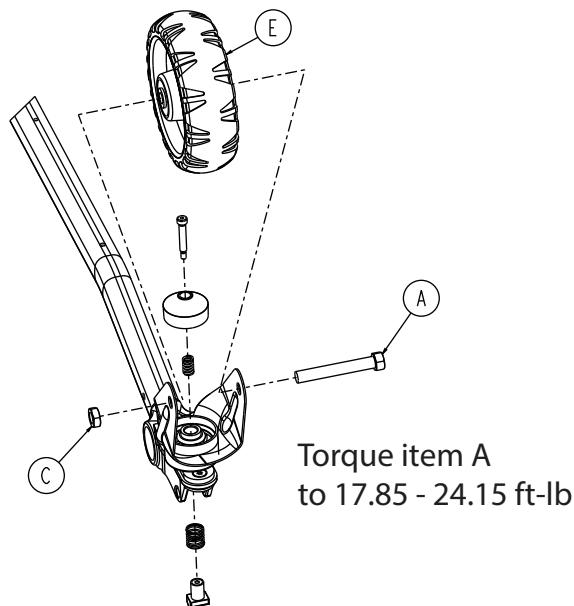

Figure 50 – Transport wheel components
4. Using a ratchet, 11/16" socket wrench, and 5/8" combination wrench, remove the hex head cap screw (A) and tolock hex thin nut (C) that secure the 6 inch molded wheel assembly (E) to the caster horn (Figure 50). Remove and discard the wheel. Save the screw and nut.